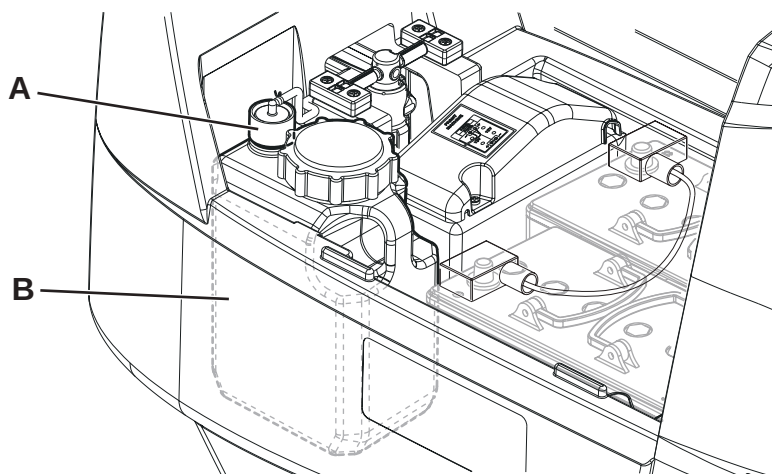

Figure 14
2. Ensure that the machine is off and the operator key (41) has been removed.
3. Lift the cover (34) and check that the recovery tank (33) is empty; if not, empty it using the drain hose (12).
4. Close the cover (19).
5. Grasp the handle (16) and carefully lift the tank (33).
6. Unscrew the cap (A, Fig. 14) from the detergent tank (B).
9. Replace the detergent tank (B) as shown in the figure, then refit the plug (A).